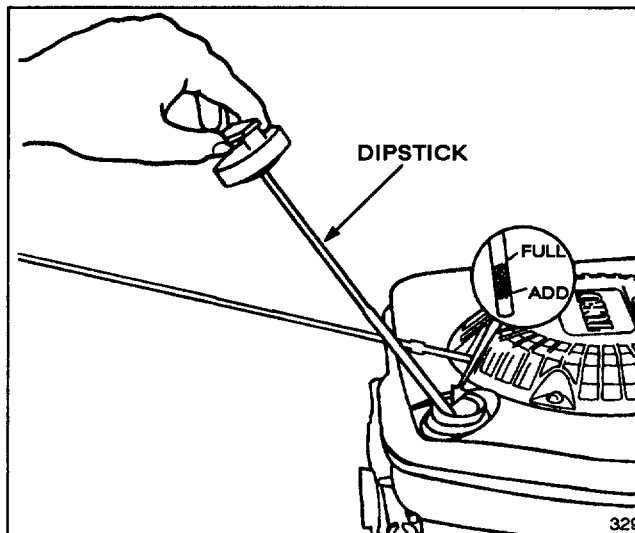

Figure 5
Before each use, ensure oil level is between FULL and ADD marks on dipstick (Fig. 5). Add oil if level is at or below ADD mark.
3. Wipe dipstick and insert it into filler neck. Rotate cap clockwise 1/4 turn. Then remove dipstick and check level of oil on side of dipstick with FULL and ADD marks (Fig. 5). If level is low, add only enough oil to raise level to FULL mark on dipstick. **DO NOT FILL ABOVE FULL MARK BECAUSE ENGINE COULD BE DAMAGED WHEN STARTED. POUR OIL SLOWLY.**
1. Clean around fuel tank cap and remove cap from tank (Fig. 5). Using unleaded gasoline, fill fuel tank to within 1/4" to 1/2" (6 to 13 mm) from top of tank, not into filler neck. Do not fill tank full.